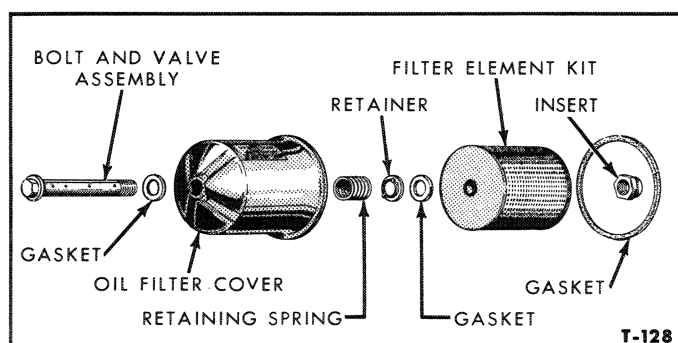
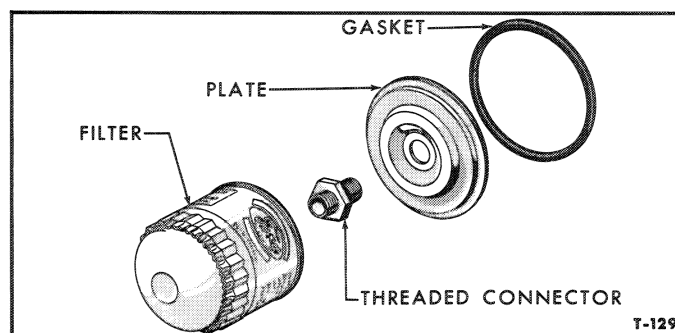
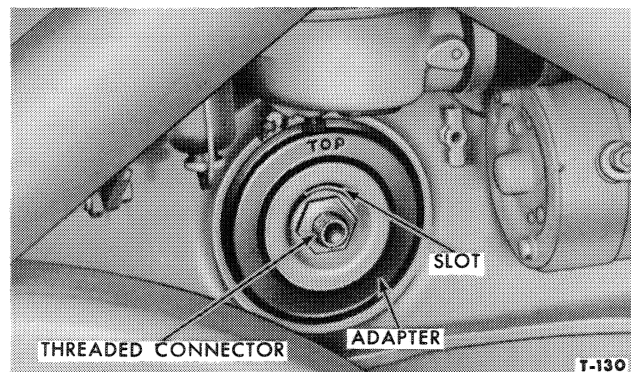

Figure 35—Early Type Oil Filter—Disassembled
Figure 36—Later Type (Throw-Away) Oil Filter—Disassembled
Figure 38—Connector and Adapter Installed
There are two different type oil filters used on Ford Tractor engines. One type consists of a cover, filter element, center bolt and relief valve and the attaching parts and gaskets, Figure 35. The other consists of a mounting insert, adapter, gasket and oil filter, Figure 36. The later type (Throw-Away) contains the relief valve in the filter, whereas the relief valve was in the center bolt on the earlier type.
2. Assemble the filter for the four wheel tractors in the sequence shown in Figure 35. Assembly is the same for the row crop tractors, except that the bolt head is welded to the cover, making it one assembly.
2. Remove the center bolt and valve assembly, cover and element, Figure 35.
5. Install the new large gasket, Figure 36, in the recess in the cylinder block. Hold the adapter against the gasket with the slot at the "TOP" and install the threaded connector as shown in Figure 38. Tighten the connector enough to seal the adapter to the cylinder block.